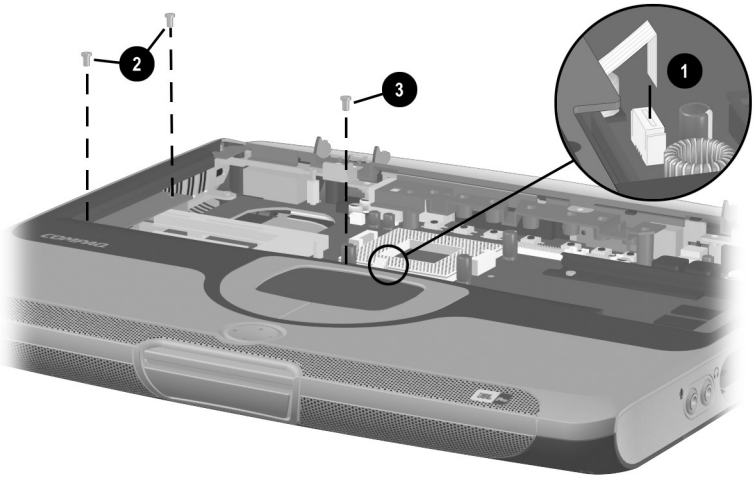

Figure 5-34. Disconnecting the TouchPad Cable and Removing the Top Cover Screws
6. Disconnect the TouchPad cable ❶ from the low insertion force (LIF) connector on the system board (Figure 5-34).
7. Remove the two silver TM2.0 × 5.0 screws ❷ and the pewter TM2.0 × 7.5 screw ❸ that secure the top cover to the base enclosure.